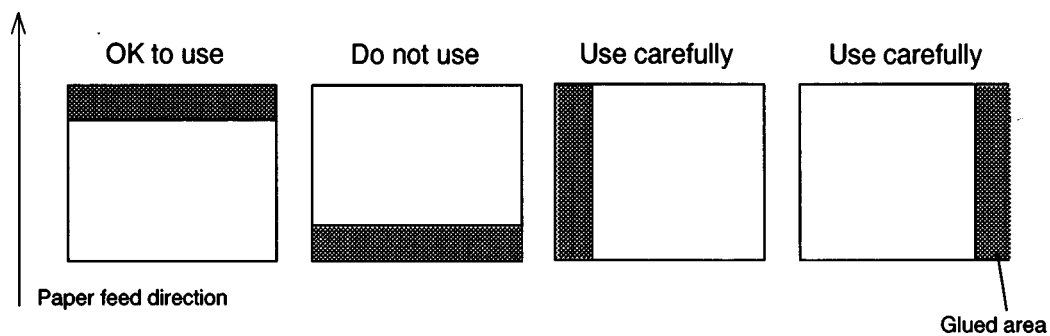

Figure 1.8.1 Slip Paper Glued Area
- ① Paper type: Normal paper
- ② Total thickness: 0.09 to 0.2 mm (.0035 to .0079")
- ③ Size: 68 to 102 mm × 152 to 210 mm (2.68 to 4.02" × 2.98 to 8.27")
- ④ Weight: 70 to 90 kg paper
- There must be no glue on the bottom edge of slip paper. It is desirable for the glue to be on the top edge. Choose slip paper carefully when the glue is on the right or left edge, since paper feeding and insertion are affected by gluing conditions (e.g., glue quality, method, and length) and glue location (refer to Figure 1.8.1). Be especially careful when slip paper is wide and has the glue on the right or left edge, since skew may occur.